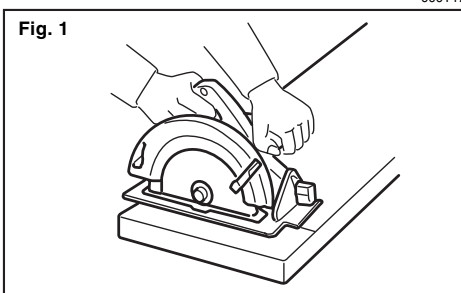

Fig. 2
16. **Place the wider portion of the saw base on that part of the workpiece which is solidly supported, not on the section that will fall off when the cut is made.** As examples, Fig. 1 illustrates the **RIGHT** way to cut off the end of a board, and Fig. 2 the **WRONG** way. If the workpiece is short or small, clamp it down. **DO NOT TRY TO HOLD SHORT PIECES BY HAND!**